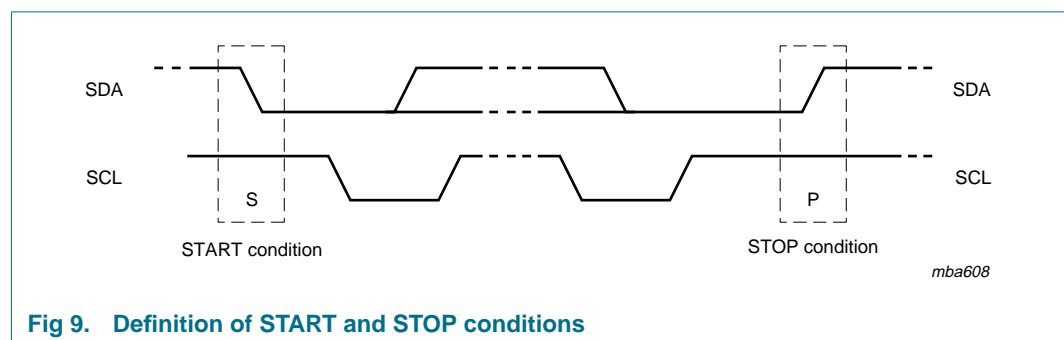

Fig 9. Definition of START and STOP conditions
Both data and clock lines remain HIGH when the bus is not busy. A HIGH-to-LOW transition of the data line, while the clock is HIGH is defined as the START condition (S). A LOW-to-HIGH transition of the data line while the clock is HIGH is defined as the STOP condition (P) (see Figure 9).